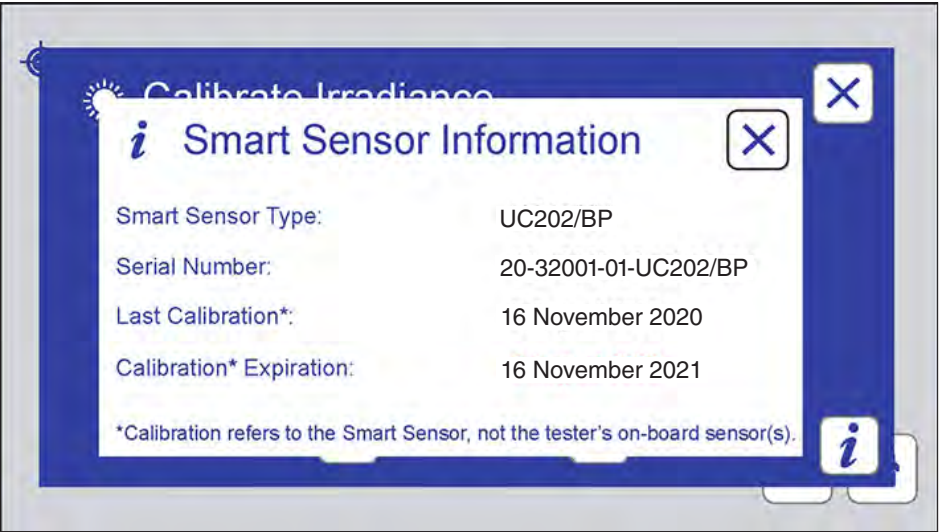

Figure 13.2e: Smart Sensor information displayed on Xe-2 menu screen.
- Calibration information can also be displayed on the Xe-2 menu screen when the Smart Sensor is connected (Figure 13.2e).